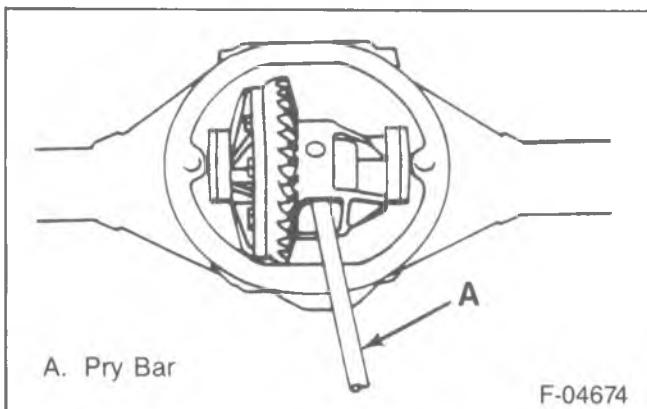
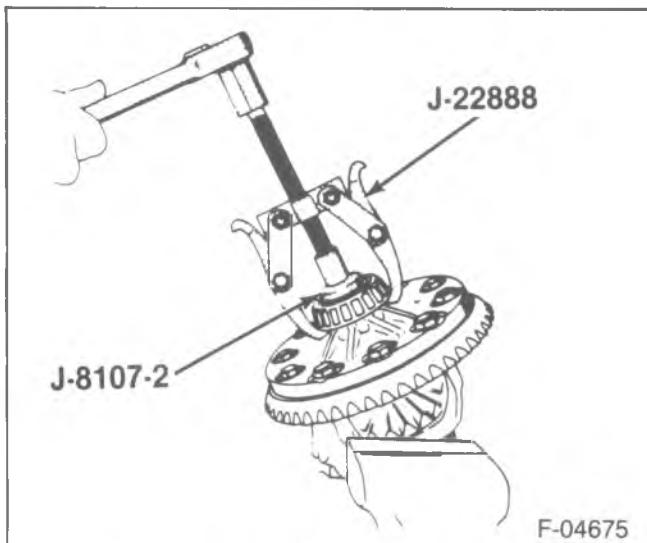

Figure 2—Removing the Differential Case
Figure 3—Removing Differential Side Bearings
9. Differential carrier (24).
- Pry the case from the axle housing at the differential "window" (figure 2).
10. Bearing outer races (22), shims (21), and spacers (23).
11. Differential side bearings using J-8107-2 and J-22888 (figure 3).
12. Ring gear bolts (25).